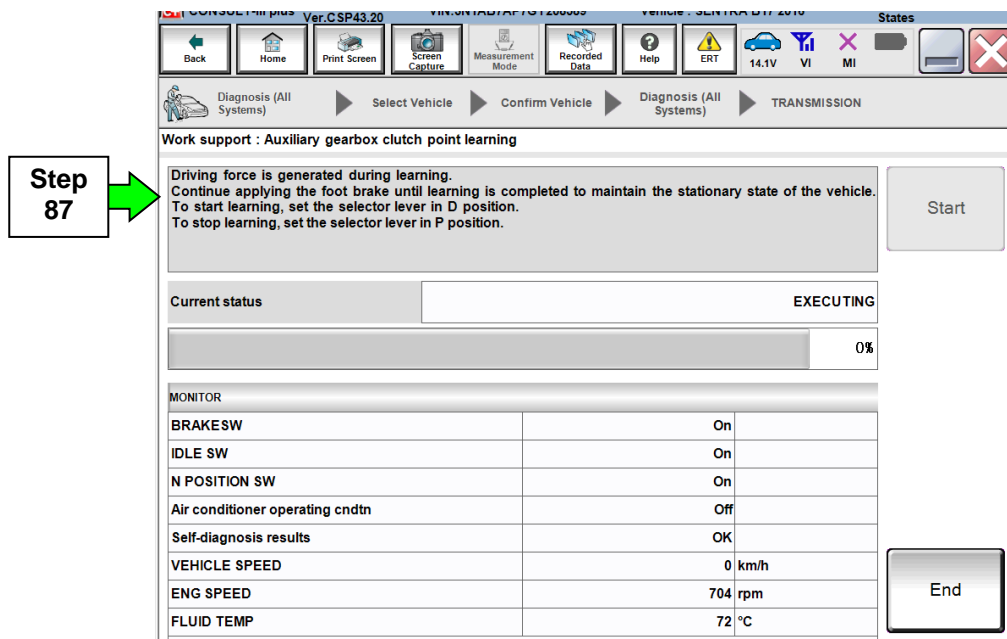

Figure 46
- Figure 46 (below) will be displayed after shifting into D position.
**NOTE:** The Current status will show EXECUTING (Figure 46), but until the vehicle is shifted into the D position, Auxiliary gearbox clutch point learning will not begin.